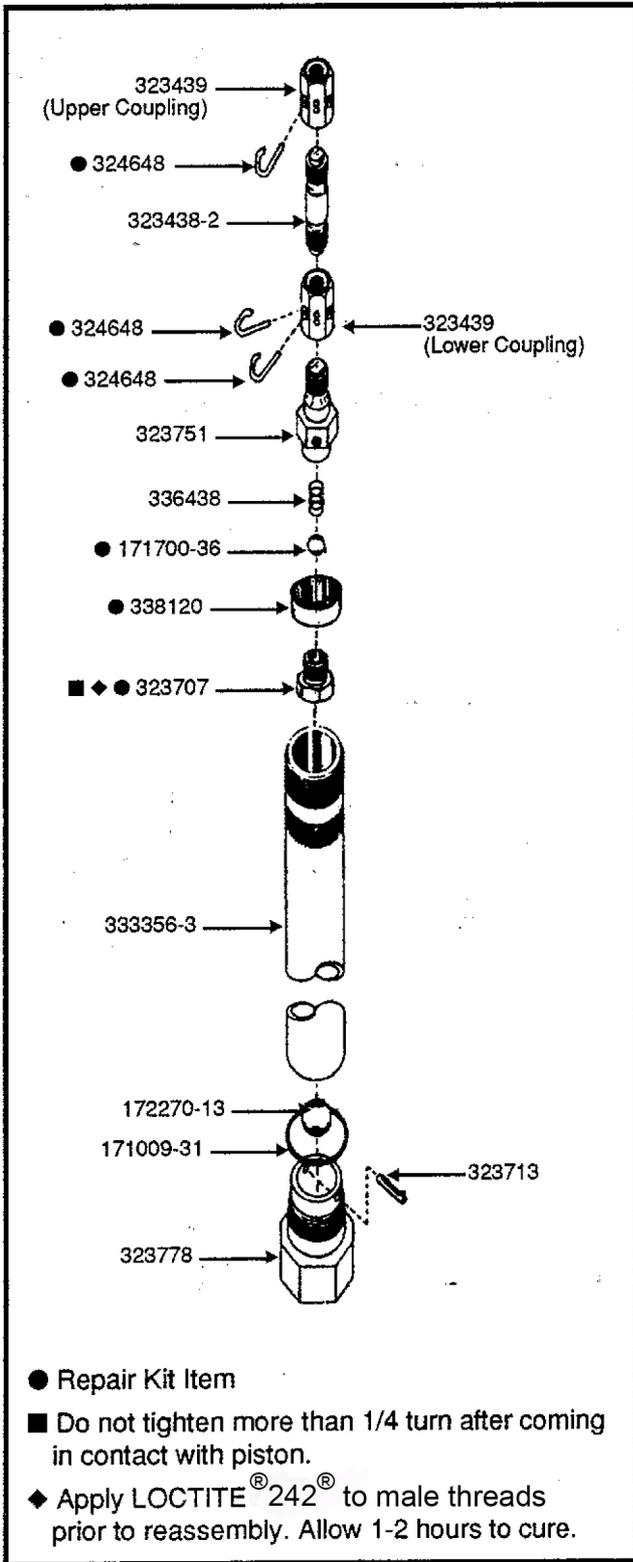
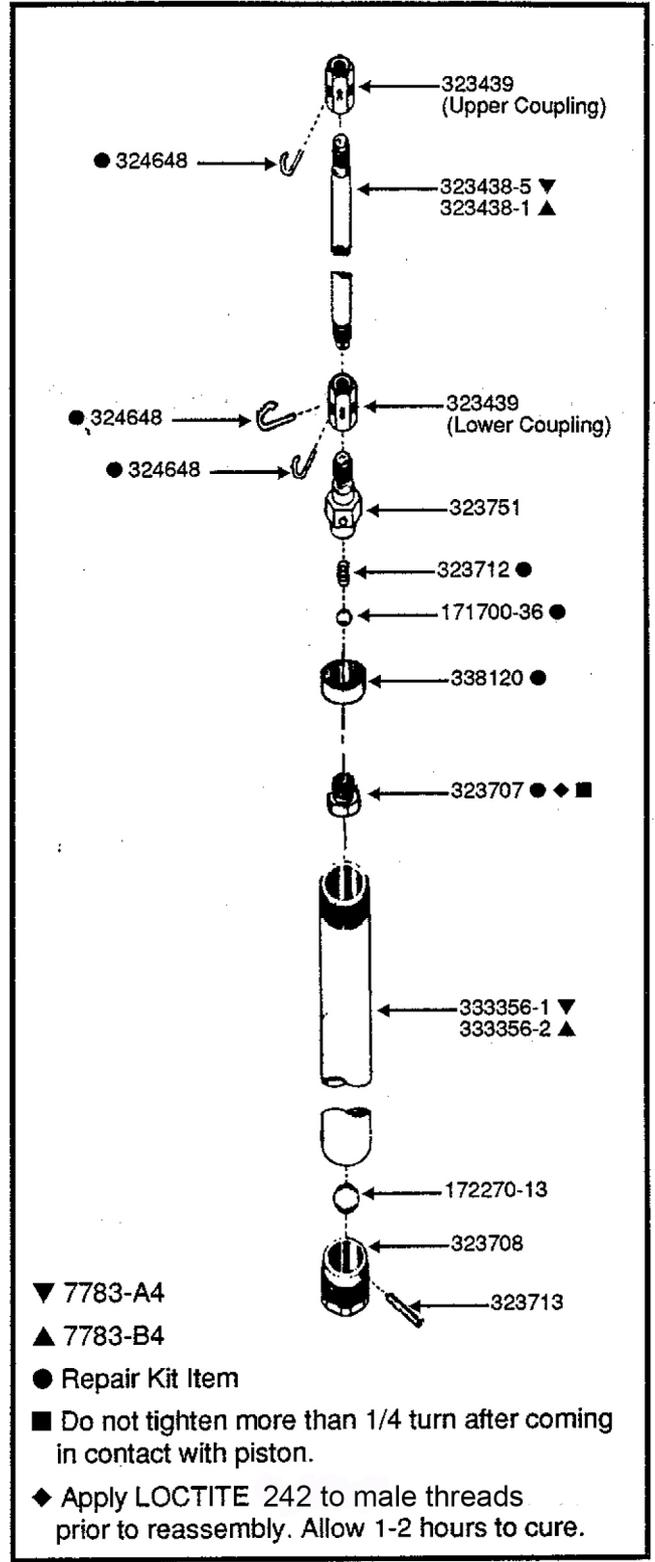

Figure 4: Pump-Tube Assembly for Model 7783-C4
Figure 5: Pump-Tube Assembly for Models 7783-A4 & 7783-B4
D. SERVICING PUMP TUBE ASSEMBLY:(Figures 4 & 5)
- 2 Grab upper coupling 323439 and pull upward until contents of pump tube is removed from cylinder 333356-1, 333356-2 (**Figure 5**) or 333356-3 (**Figure 4**).
- 3 Remove lower spring clip 324648 from upper coupling 323439. Unthread and remove upper coupling from rod 323438-2 (**Figure 4**), 323438-1 or 333438-5 (**Figure 5**).
- 5 Unthread and remove valve seat 323707 from adapter 323751. Remove piston 338120, ball 171700-36, and spring 336438 (**Figure 4**) or 323712 (**Figure 5**).
- 6 Gripping foot valve body 323778 (**Figure 4**) or 323708 (**Figure 5**), unthread cylinder from foot valve body.
Remove “O” ring 171009-31 from foot valve body (**Figure 4**).
PARTS LIST • Pump Tube Assembly (Model 7783-C4, Figure 4)